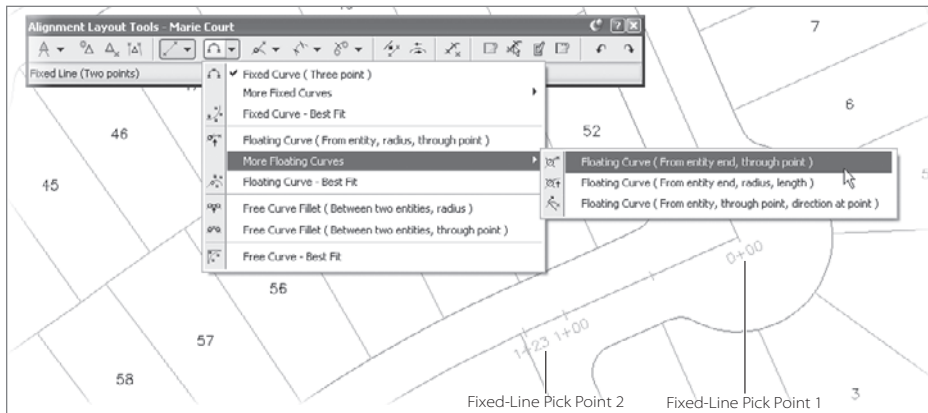

Figure 8.7
5. Right-click to exit the `Fixed Line` command. Your screen should look like Figure 8.7.
6. On the toolbar, select the `Floating Curve (From Entity End, Through Point)` command as shown in Figure 8.7.